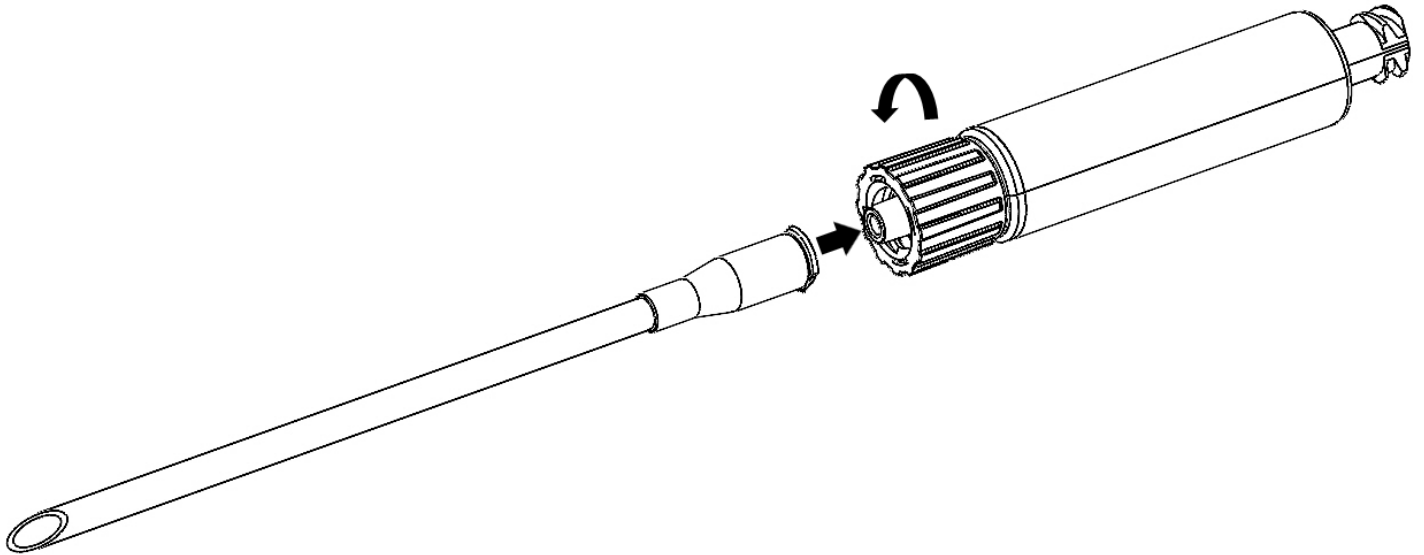

Figure 2. Connection of Decompression Needle/Thoracostomy Device to Capnospot
5. Connect the male luer on the Capnospot to the female luer portion of a needle or thoracostomy device as shown in figure 2 below. **NOTE: CAPNOSPOT MUST BE CONNECTED TO THORACOSTOMY DEVICE BEFORE PROVIDER ATTEMPTS TO DECOMPRESS PNEUMOTHORAX WITH**